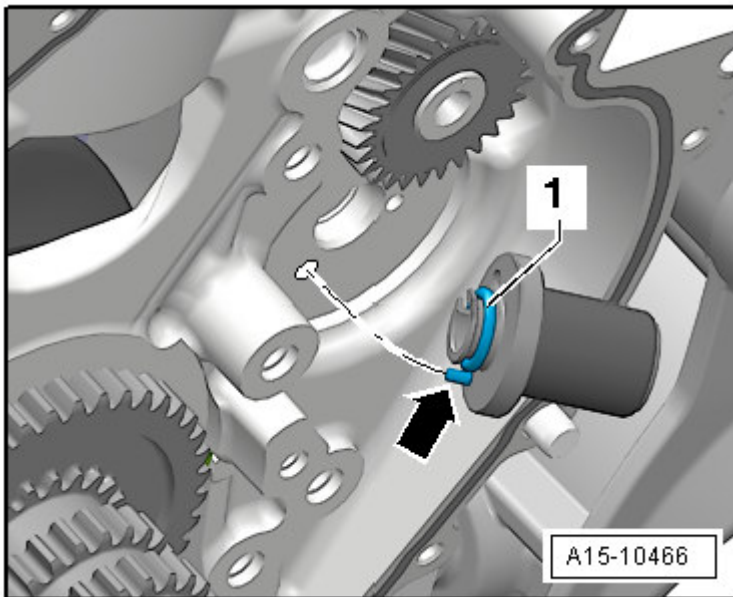

Fig. 14: Bearing Pins, Installation Position
- Installed position, refer to **Fig. 14**.